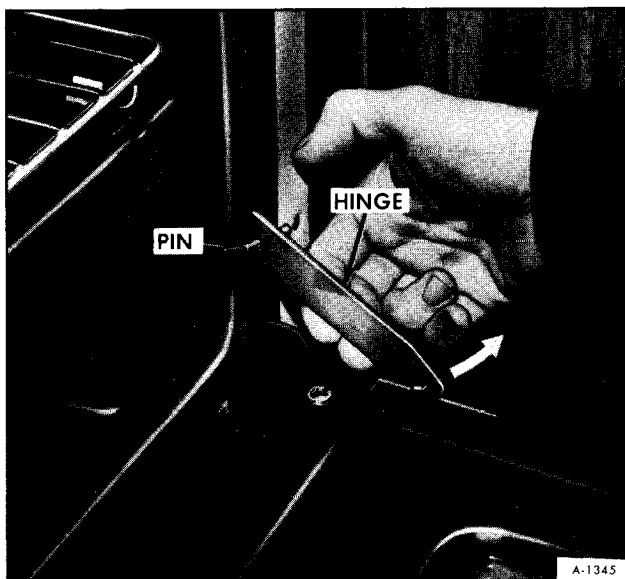

Figure 5—Disengaging Door Hinge
2. Lift door (as if to close) and disengage hinges at door (See figure 5).